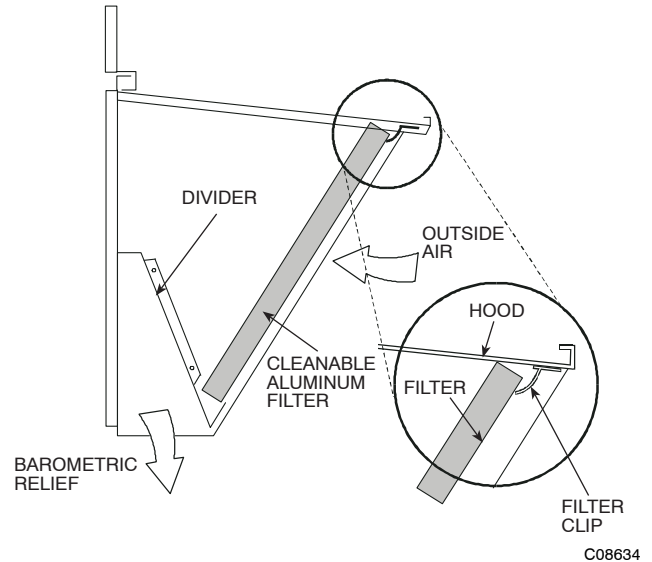

Fig. 13 - Economizer Filter Installation
- Open the filter clips which are located underneath the hood top. Insert the aluminum filter into the bottom filter rack (hood divider). Push the filter into position past the open filter clips. Close the filter clips to lock the filter into place. See Fig. 13.